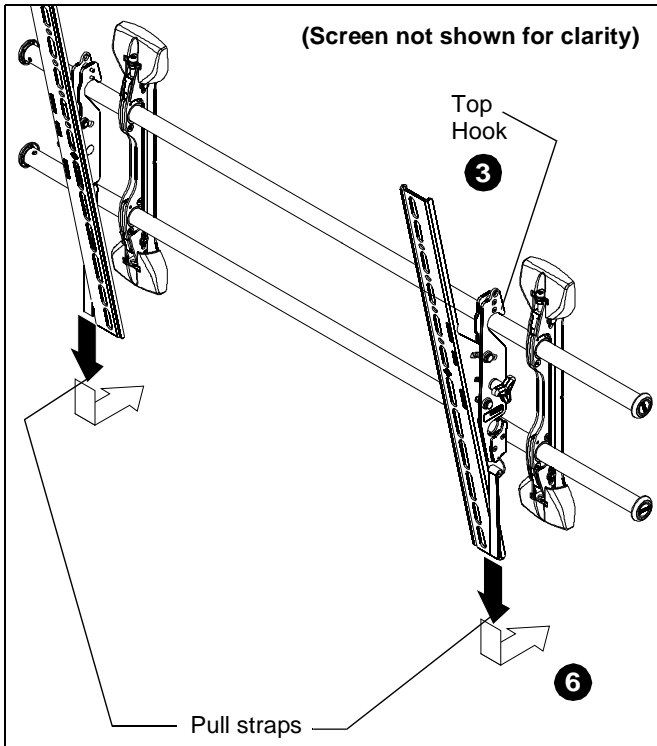

Figure 9
3. Hang top hook of interface brackets onto the top bar of the mount. (See Figure 9)
6. Pull downward on the pullstraps and swing inward toward wall, latching interface brackets to lower bar and locking bottom of screen to the mount. (See Figure 9)